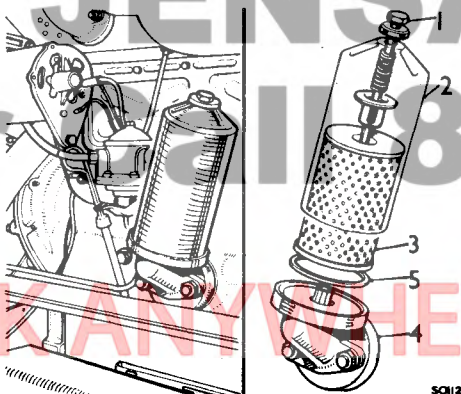

Fig. 48
ENGINE OIL FILTER: Remove the central bolt (1) and the bowl (2). Remove and discard the filter element (3). Clean the bowl with fuel. Fit a new element and re-assemble the bowl to the filter head (4). Note the order of assembly of the components. Always renew the bowl sealing gasket (5). (See Fig. 48).